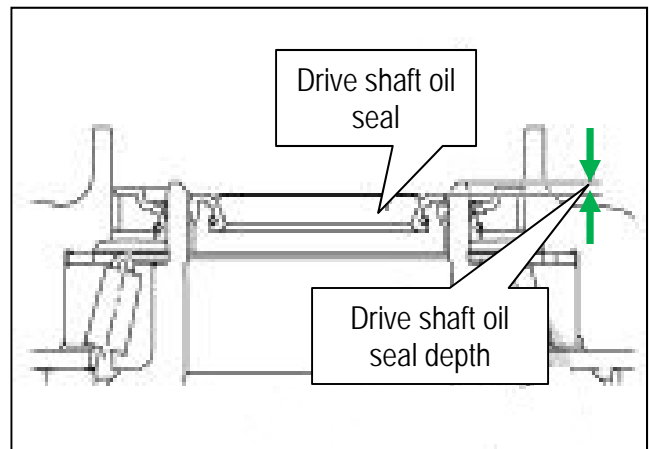

Figure 7
- b. With the help of an assistant, install the new drive shaft oil seal into the transfer assembly to the specified depth of 2.0-2.6 mm (0.079-0.102 in.) using Universal Driver Handle J-8092 and Seal Installer J-52390 (Figure 7).